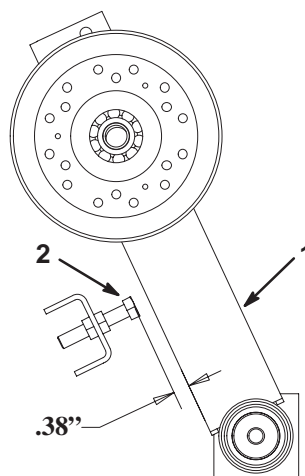

Figure 67
12. Check idler arm stop screw (Fig. 67). If distance between idler arm and stop screw is not approximately .38", adjust as follows: